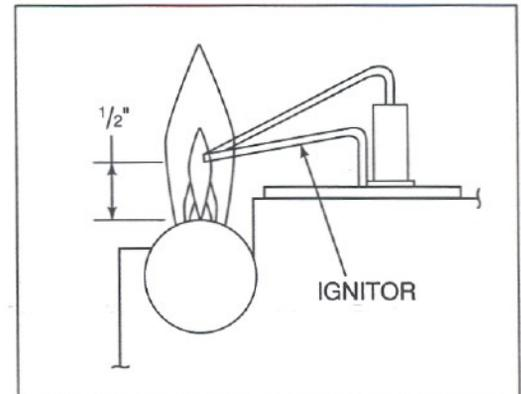

Figure 9A
- B. Periodically visually check the flame of the burner, making sure the flames are steady; not lifting or floating. The flame color should be blue with yellow tips. The ignitor (electronic) or thermopile (standing pilot) tips should be covered with flame. See Figures 9A or B and 10.